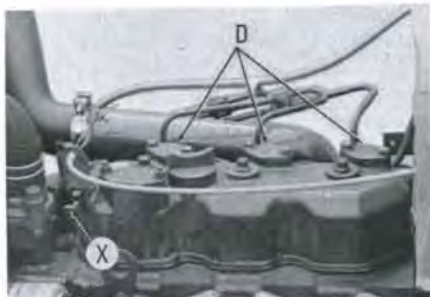

Fig. 12—View of engine on Models L225 and L225DT showing stop stud (X) and decompressor access covers (D).
Compression release mechanism must move completely away from rocker arms when control knob (K—Fig. 11) is pushed in and move decompressor arm (A) fully to decompression position when knob is pulled out. To adjust linkage, push knob (K) in to contact control panel. Make sure arm (A) moves to approximately the position shown, and that clamp (C) is in contact with arm. Adjust if necessary, by loosening clamp screw and repositioning clamp. Decompressor arm (A) must contact stop stud (X—Fig. 12) on rocker arm cover when knob is pulled out.